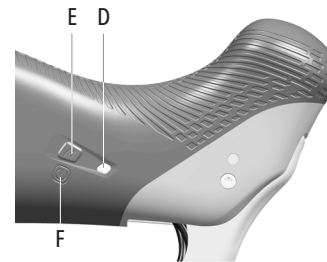

Fig.8
- D - Voyant de communication (Fig.8)
- E - Touche MODE Ergopower (Fig.8)
- F - Touche d'allumage (Fig.8)